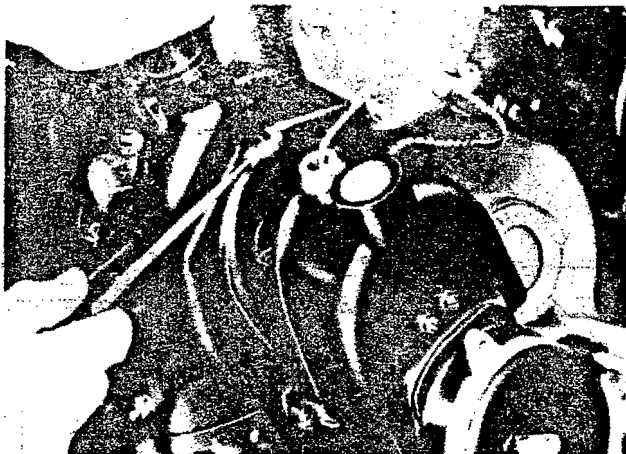
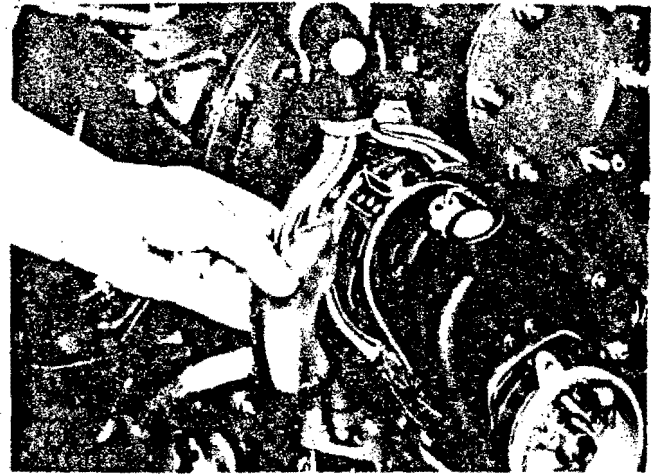

Figure 7-34. Removing Cover Screw
Figure 7-35. Remove Distributor Blocks
c. If the engine is equipped with Scintilla magnetos, remove the screw [Figure 7-34] which secures the distributor block halves of the magneto. Remove the safety pin, disengage the two spring locks on the distributor block cover; then remove the cover halves. Lift out the distributor blocks and wrap each block in oiled paper [Figure 7-35].